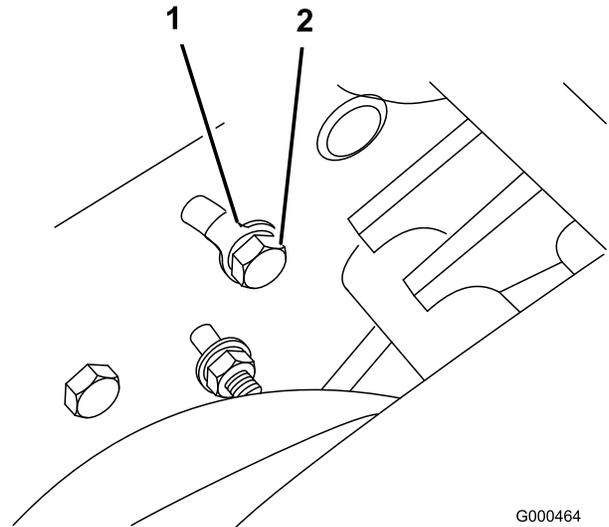

Figure 47
- A. On back side of side plate, loosen the bolt securing the idler bracket to the side plate (Figure 47).